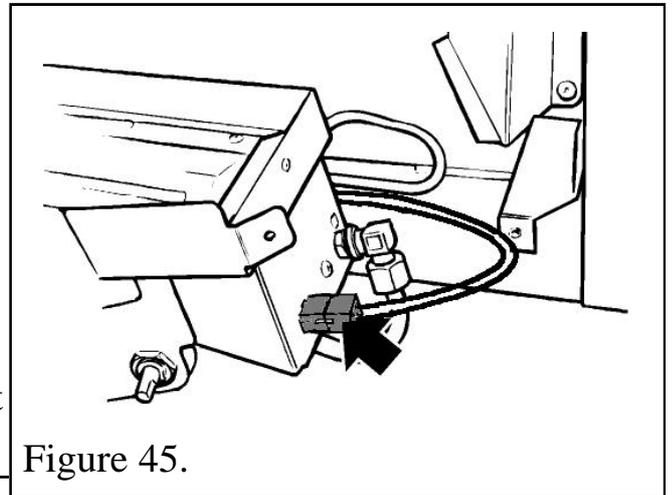

Figure 45.
- Detach the burner wiring loom connection at the right side of the burner (See figure 45).